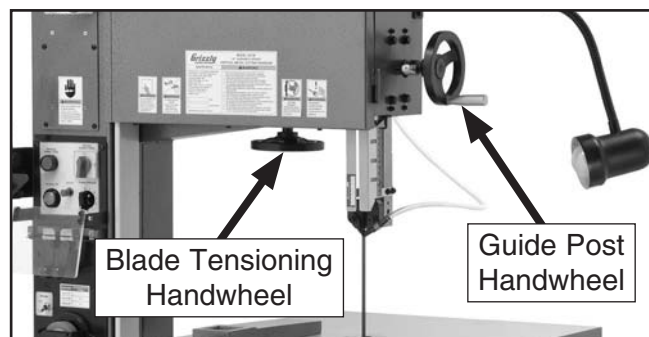

Figure 15. Guide post and blade tensioning handwheels.
3. Use the guide post handwheel (see **Figure 15**) to raise the upper blade guides to the highest position.
5. Use the blade tensioning handwheel (see **Figure 15**) to make adjustments until the blade is properly tensioned.